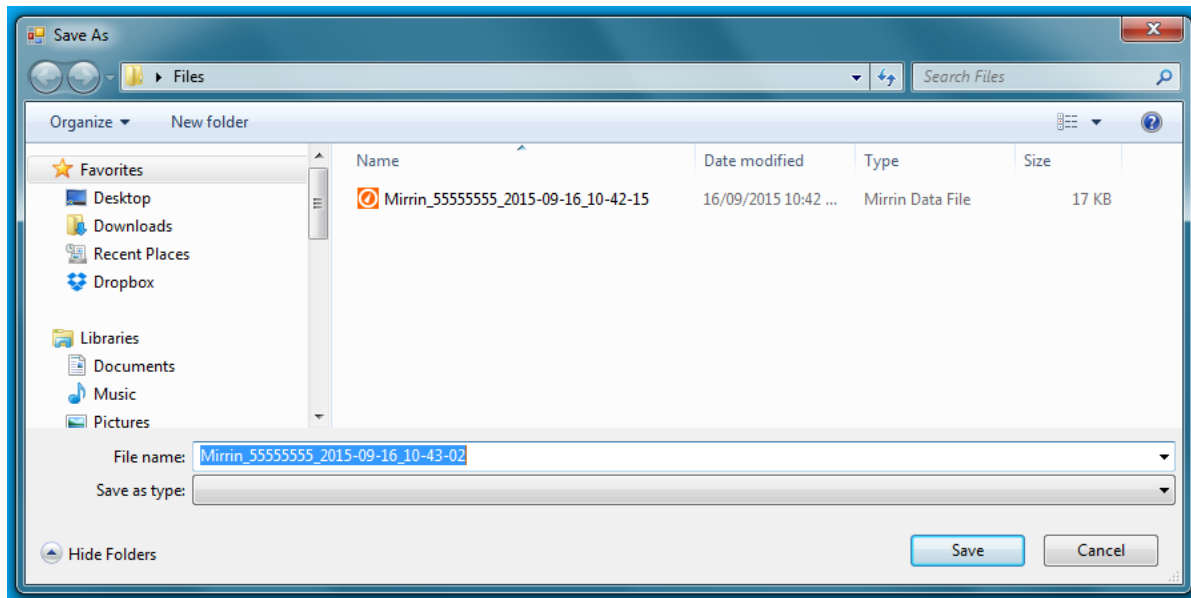

Figure 2.9.6
Step 3: Click the 'Download Data' button again to verify that the file has been saved to the desired folder as shown in figure 2.9.6.
Step 4: Click the 'Cancel' button. The window in figure 2.9.6 closes.